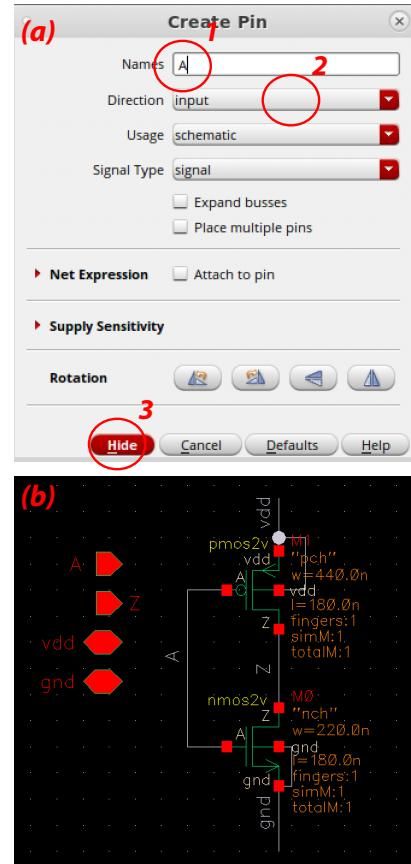

Figure 15: (a) Schematic pin creation; (b) CMOS inverter schematic
- Create the input pin. To do so: *Create -> Pin* or press **p**. A window appears (Fig. 15 (a)), prompting you to enter the name (*A*) and the direction (*input*) of the pin. Click on *Hide* and place the pin on the schematic. You can either place them directly on the net they are supposed to connect to, or on the left of your schematic (and connect the nets later through some labels).
- Your schematic should look like Fig. 15 (b). Don't forget to Check and Save your schematic and ensure there is no errors or warnings.